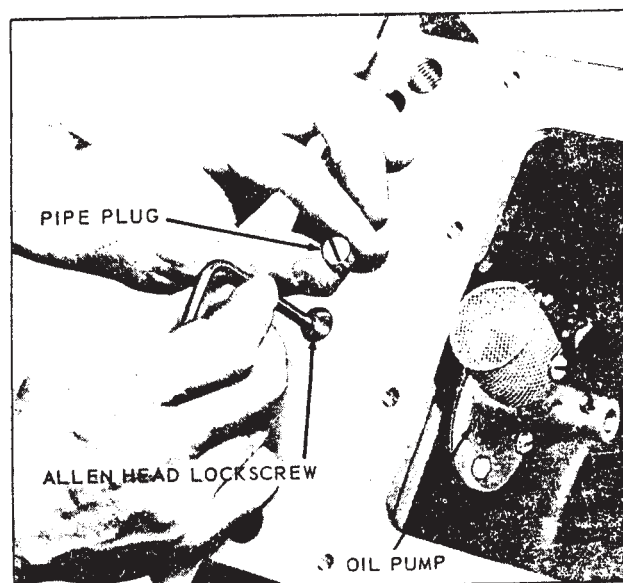

Figure 10-8. Oil Pump Lockscrew and Pipe Plug Removal
a. Take out the slotted pipe plug, and then with a 5/32 inch Allen wrench, remove the oil pump lockscrew, as shown in figure 10-8.